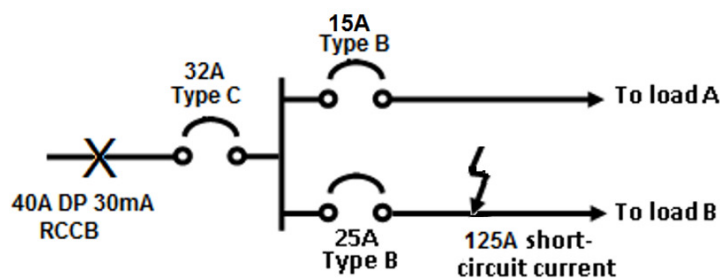

Figure Q5
- 5 Refer to the single line diagram in Figure Q5 below: